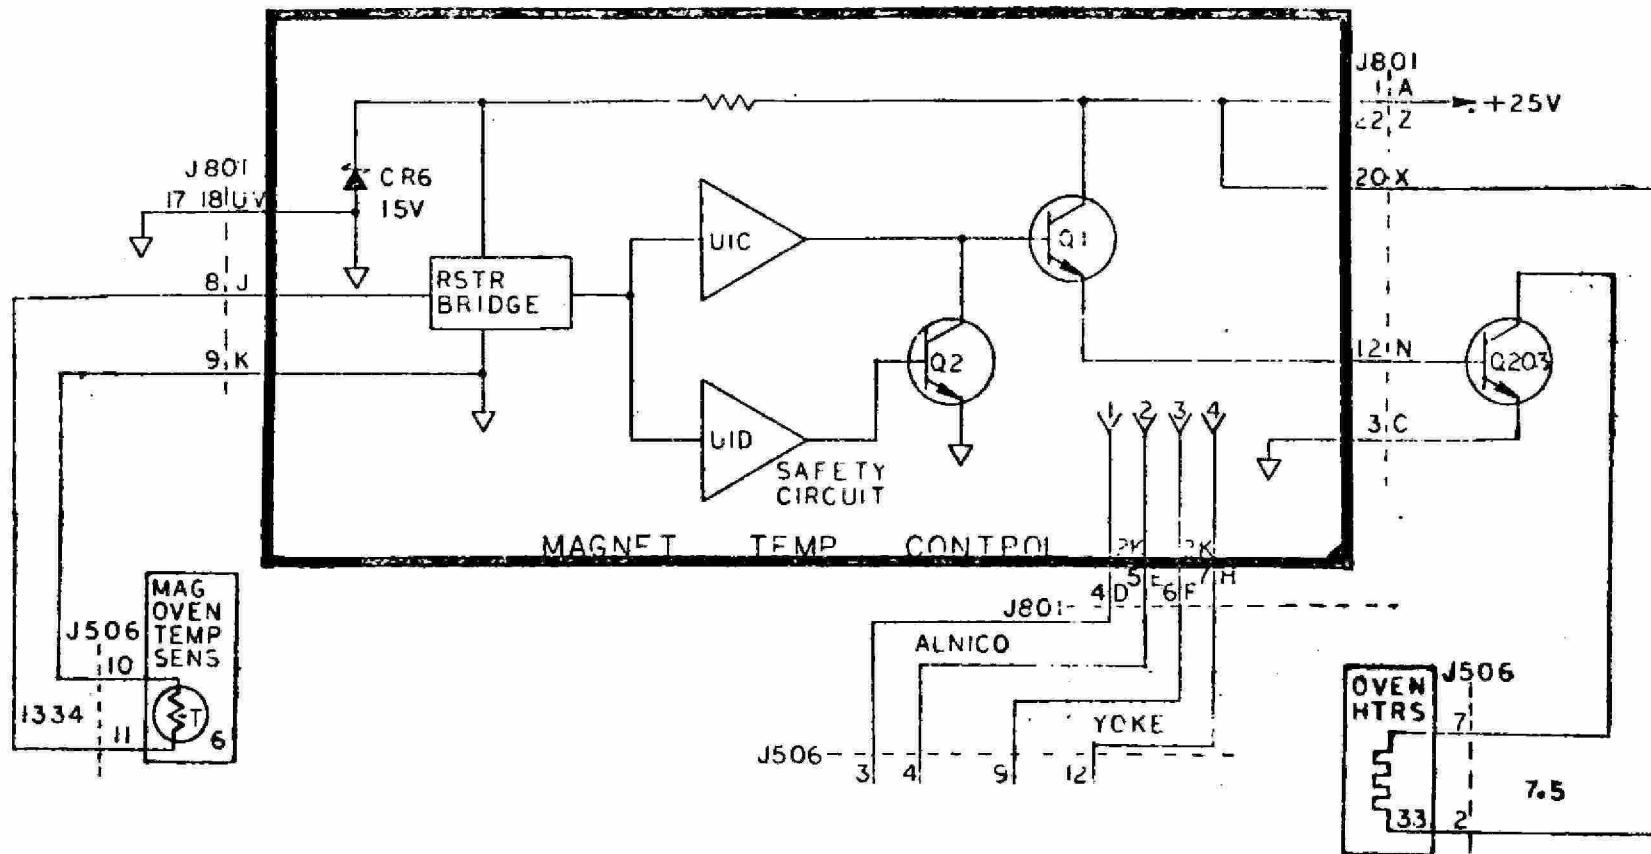

FIGURE 1-5. MAGNET TEMPERATURE CONTROL
1.2.2 MAGNET TEMPERATURE CONTROL (Figure 1-5)